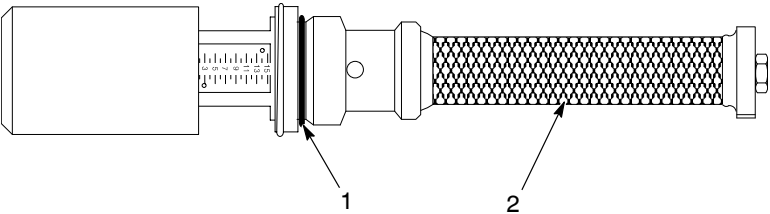

Figure 6-8: Inspecting the o-ring and filter screen
- 2. See Figure 6-8 and refer to Table 6-2. Inspect the o-ring (1) and filter screen (2).